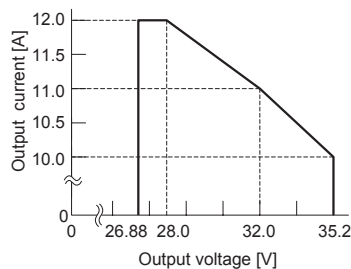

Fig. 3.8 Output Current derating curve (CQHS3504832)
(5) Output current derating (CQHS3504832)
■When the output voltage adjust less than rated output voltage, the output current range becomes increasing as shown in Fig. 3.8.